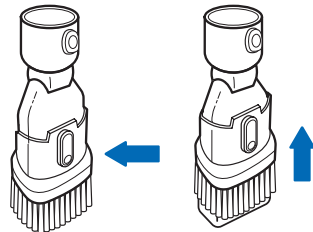

Figure 2.3
- Press button to slide bristles up/down and switch between upholstery brush and duster (Figure 2.3)